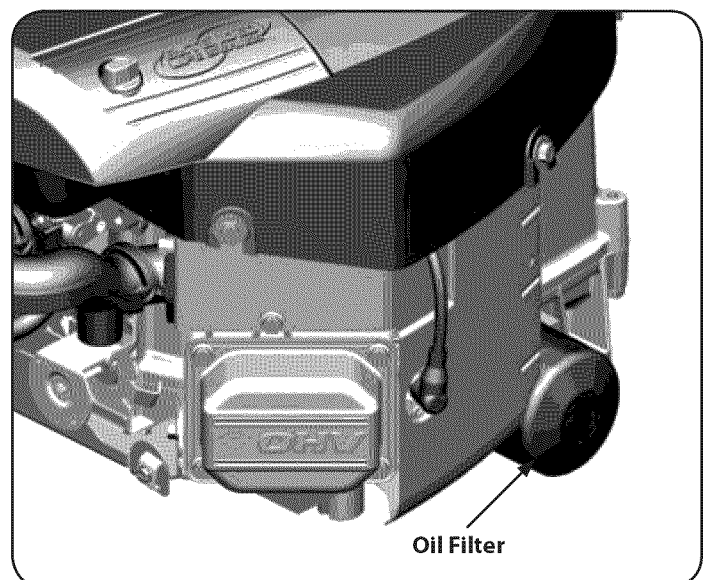

Figure 23
6. Clean the area around the oil filter. Place a container under the filter to catch any oil and remove the filter. See Figure 23.